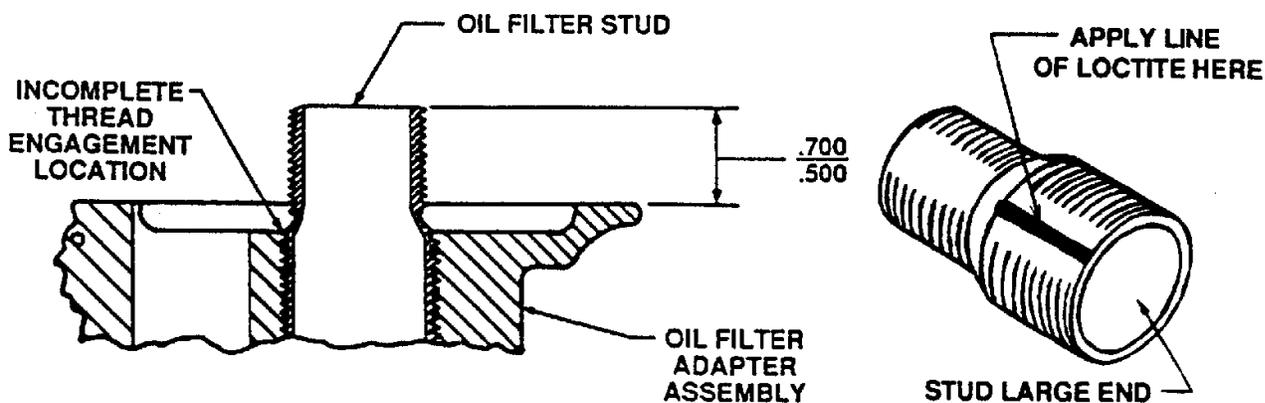

FIGURE 19-7. OIL FILTER ADAPTER STUD INSPECTION
Oil Filter Adapter Inspection - A new stud P/N 653489 must be installed if the old stud is a plain steel color with a length of 1.440" inch, if it is found to be loose or it is installed beyond the stud setting height specified in Figure 19-7, "Oil Filter Adapter Stud Inspection." Install new stud in accordance with the following procedure:
- C. Install the applicable new stud (P/N 653489) and confirm that the incomplete thread on the stud stops at the first thread in the adapter housing and does not continue into the housing below the minimum .500" extension. See Figure 19-7, "Oil Filter Adapter Stud Inspection." Replace the adapter housing if the extension is less than the specified .500" minimum.
- E. Apply a line of Loctite 271 (TCM P/N 646941) along the large threads (.8125-16 end) of the stud and install into the adapter finger tight to 30 inch pounds torque. Check for proper stud extension height in accordance with Figure 19-7, "Oil Filter Adapter Stud Inspection."